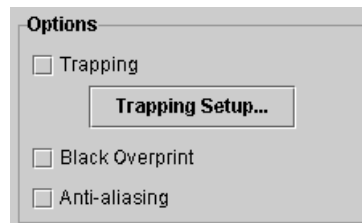

Figure 4-3. Image Quality Tools
- DocuColor 2045/2060/6060 black overprint prevents the background of a black object from being removed, causing the black image to be printed on top of the underneath color and eliminating bands of white around the black object. To view the dialog in which to find and set this feature, see Figure 4-3.
- **Anti-aliasing** reduces the jagged appearance of curves and lines in text and line art. To view the dialog in which to find and set this feature, see Figure 4-3.